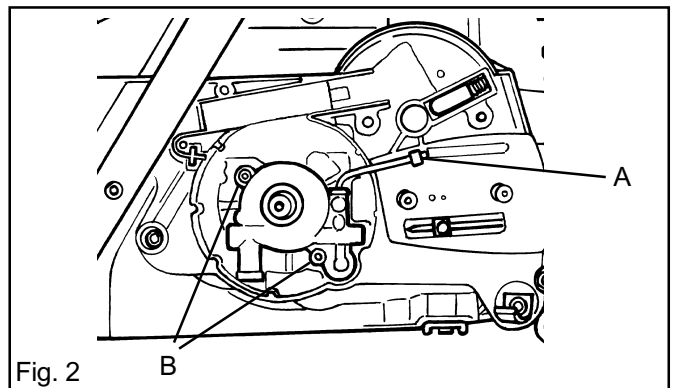

Fig. 2
5. Fit the washer and circlip (B). See fig. 2.
4. Use a screwdriver and lift the oil pipe forward **A**. Lift up the pipe and pull it out of the oil pump. See fig. 2.
5. Remove the two bolts (**B**) and lift the oil pump from the crankcase. See fig. 2.